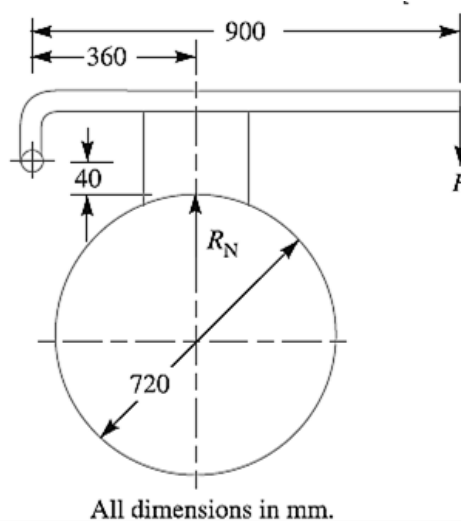

Figure Q3a
- (a) A single block brake has a drum diameter of 720 mm, as shown in Figure Q3a. If the brake sustains 225 Nm torque at 500 r.p.m.; The coefficient of friction given as 0.3. Determine,
- The required force (P) to apply the brake for clockwise rotation of the drum, (6 marks)
- The required force (P) to apply the brake for counter clockwise rotation of the drum, (3 marks)